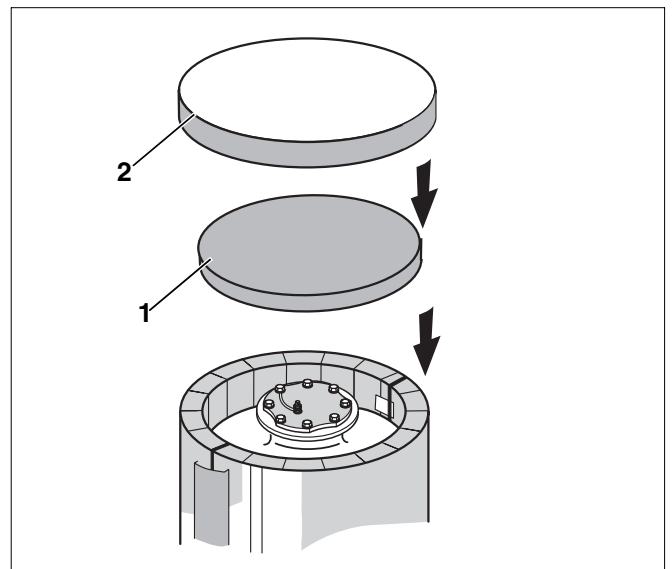

Fig. 21 Thermal insulation – top access port
- Insert the thermal insulating disk (Fig. 21, **Item 1**) in front of the access cover.
- Position top cover (Fig. 21, **Item 2**) on the DHW tank and screw in place with four screws from the side.